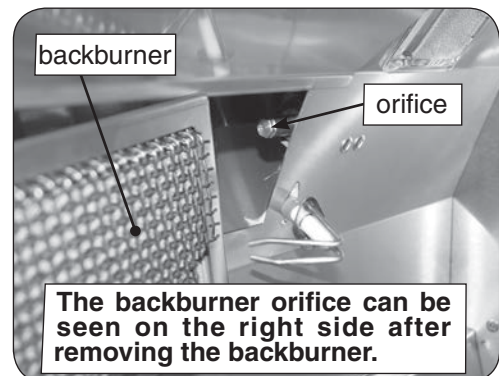

Fig. 33-4 Remove backburner
3. Carefully pull the left end of the backburner forward until the burner can be moved to the left pulling it free from the orifice located on the right side (see Fig. 33-4).